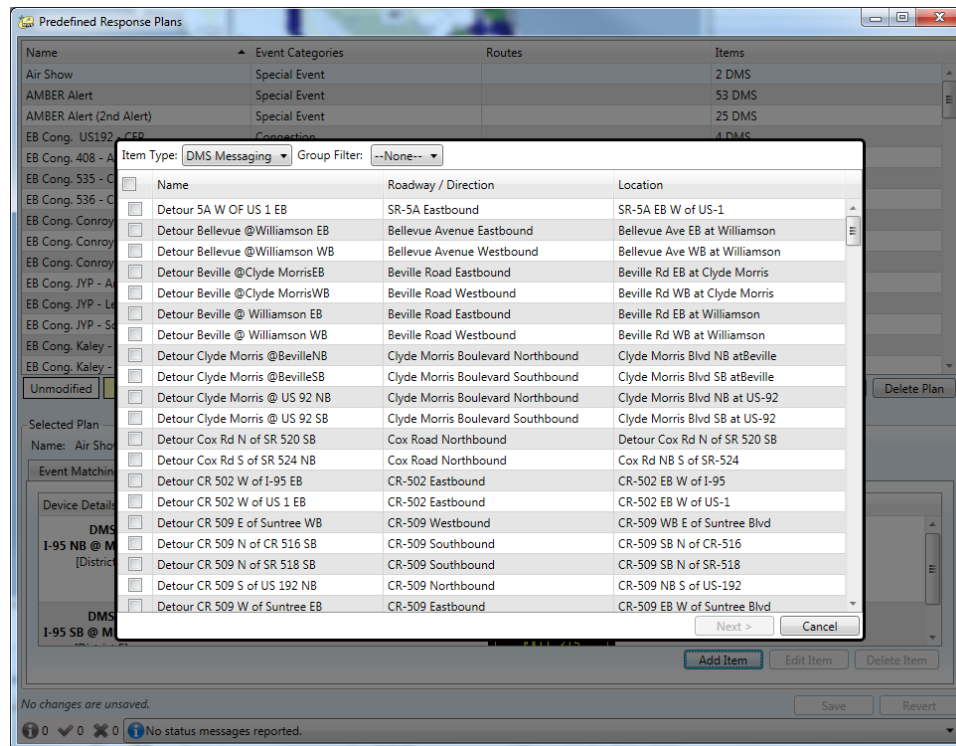

Figure 3-105 – Select a DMS
- **Add Item:** Selecting this option will display a dialog to allow the operator to select a device. Figure 3-105 shows the Select a DMS dialog. Operators should check the checkbox next to the sign they wish to include in this predefined plan. DMSs may be filtered by groups if desired.